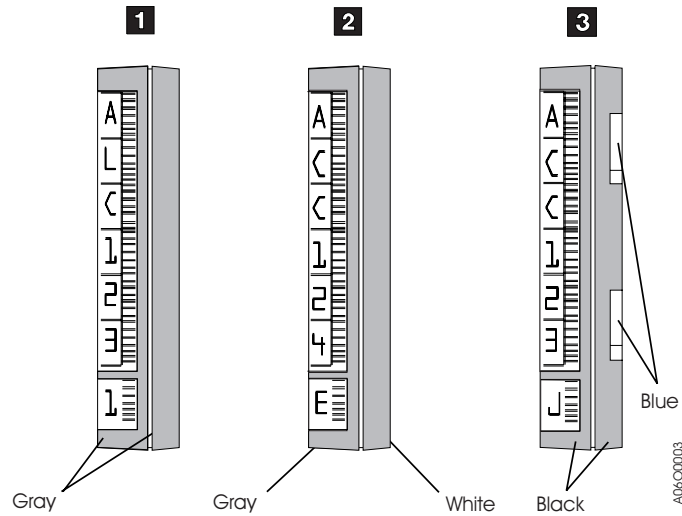

Figure 15. Cartridge System Tape Identification
Figure 15 on page 19 shows the Cartridge System Tape **1**, Enhanced Capacity Cartridge System Tape **2**, and the High Performance Cartridge Tape **3**. Note the blue plastic inserts of the High Performance Cartridge Tape cartridge and the placement of the media-type label (either 1, E, or J).
1. If both 3490 and 3590 drive types are installed in the 3494, all cartridges should have a label in the seventh character position. See Figure 15 on page 19.